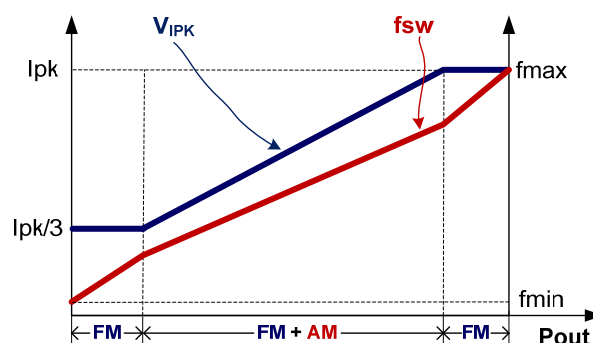

Fig.1
To meet the tight requirement of averaged system efficiency and no load power consumption, a hybrid of frequency modulation (FM) and amplitude modulation (AM) is adopted in HM274X which is shown in the Fig 1.